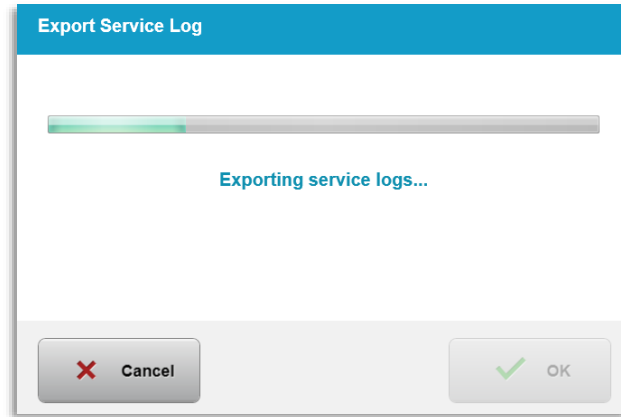

Figure 3-58. Export Service Log in Progress
- o The System automatically begins transferring the service log and shows a progress bar of the transfer process as shown in Figure 3-58.